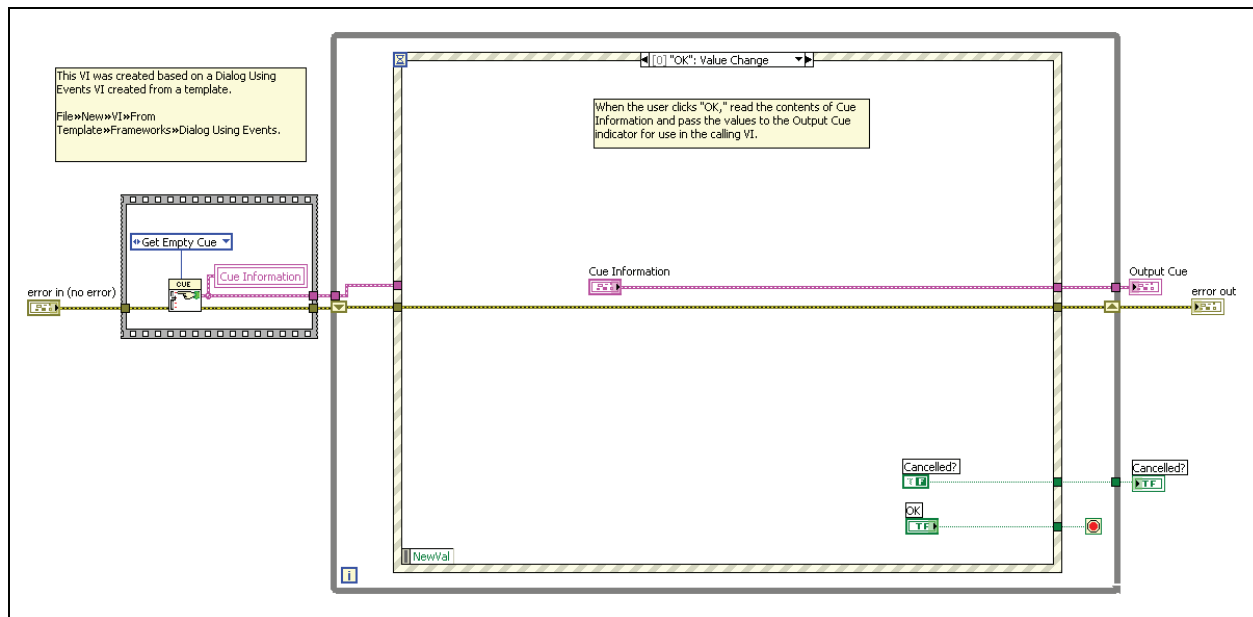

Figure 7-10. Record Function Dialog Box
3. Open the block diagram and create a constant from the **command** input of the tlc_Cue Module VI. Set the command to **Get Empty Cue**, as shown in Figure 7-10.